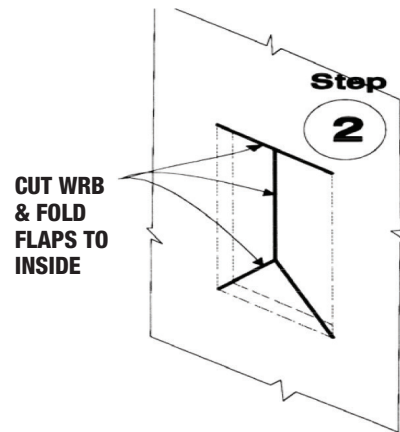

Figure 3 Install WRB and cut at opening.
Step 2. Apply the continuous WRB across prepared rough opening. Cut WRB at prepared rough opening in modified T-pattern. Fold WRB into prepared rough opening at sides and bottom (see Figure 3).